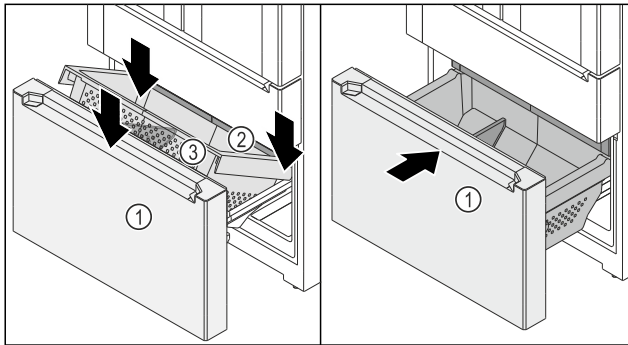

Fig. 153
- Telescopic unit Fig. 153 (1) is pulled out.
- Drawer Fig. 153 (2) is pushed in.
- ▶ Place the container Fig. 153 (3) at the rear on the rails on the right and left.
- ▶ Lower the front of the container Fig. 153 (3) so that the container Fig. 153 (3) encloses the rails on the right and left.
- ▶ Push in the telescopic unit Fig. 153 (1).